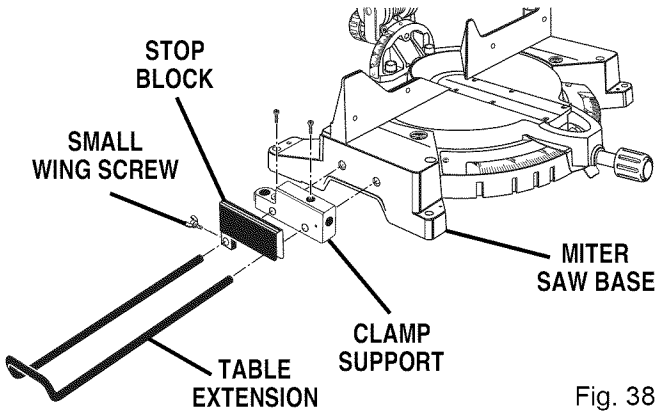

Fig. 38
See Figures 38, 39, and 40.
If you plan to use both the stop block and miter clamp, slide the stop block on the back arm of the desired table extension first. Next slide the clamp support on the same table extension. See Figure 38.
To install table extensions, insert the ends of the extensions into the two holes in each side of the base. See Figures 38 and 39.
See Figures 38 and 41.
- Slide the stop block on the back arm of either table extension, then insert the table extension into the saw base. See Figure 38.
- Use the small wing screw to secure the stop block to the table extension. See Figure 38.